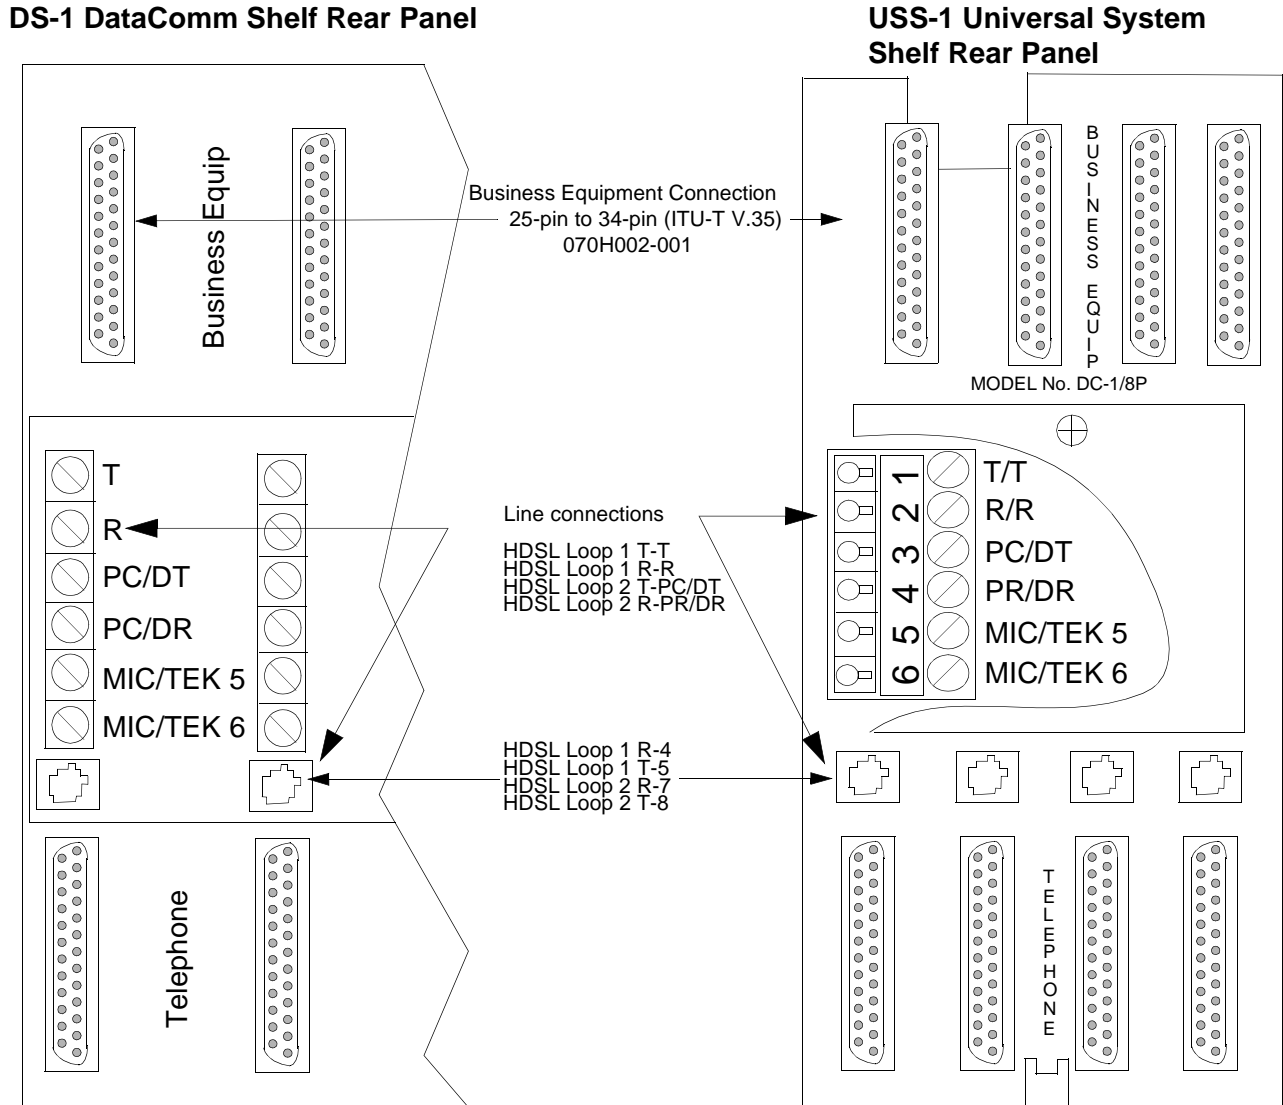

Figure 2-6 DataComm and Universal System Shelf Rear Panel Connections
1. If the unit is rackmounted in the DataComm or USS-1 shelf, you connect the two-wire lines according to Figure 2-6.
4. Connect the wires as shown in *Figure 2-6*, and replace the plastic cover.